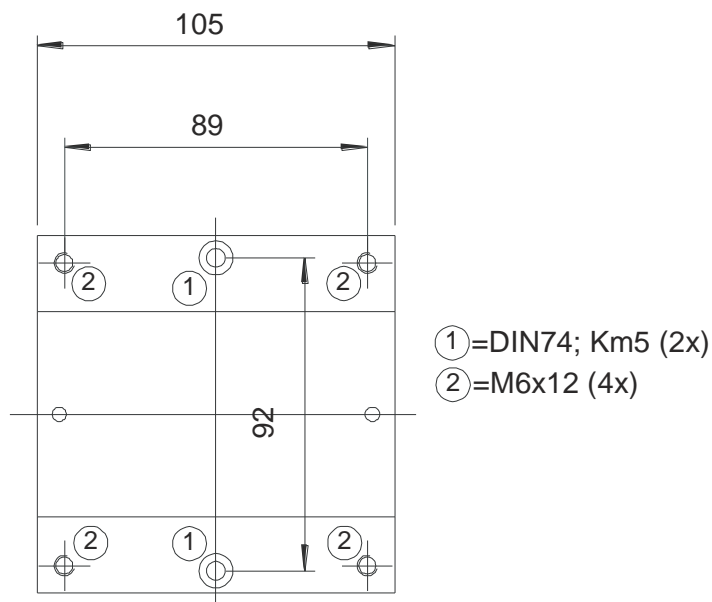
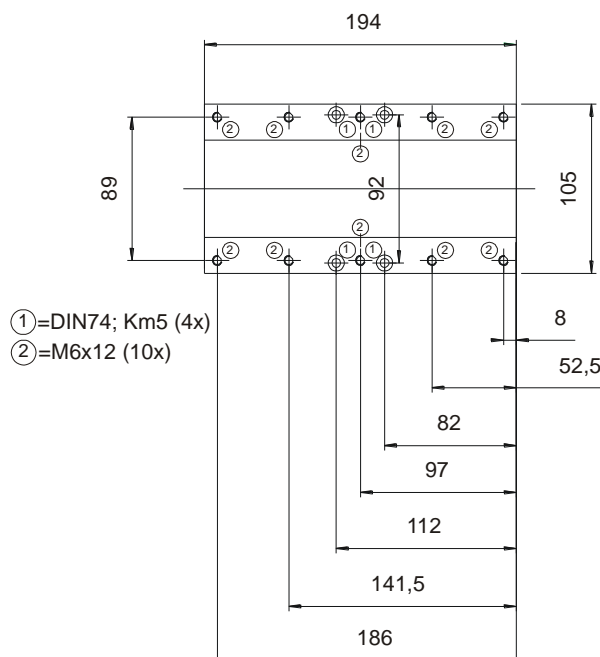

Figure 10: Mounting detail standard slide
Figure 11: Mounting detail long slide
Via two borings M5 (see ① in *Figure 10*) the linear unit can be tighten up on a mounting table. A further mounting possibility is using the 4 threaded borings M6 (see ②) possibly through a distance plate.
Both attachment variants are possible. The respective application determines the needed variant (long side, see *Figure 11*, page 13).
Actuators (pick-up modules, cylinders etc.) to be installed on the module easyLINE are usually attached to the linear unit using the drill template of the end plates, see *Figure 10*, page 12 or *Figure 11*, above.